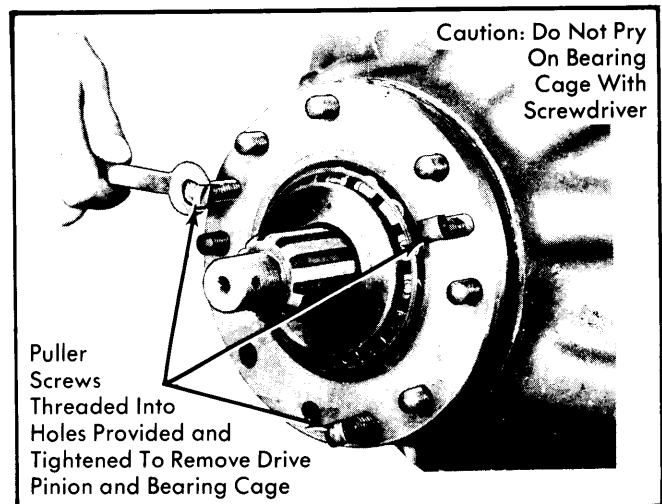

Fig. 1 Drive Pinion Shaft and Bearing Cage Removal
4) Hold yoke with a suitable holding tool (DD-949) and remove nut and washer. Pull off yoke using a suitable puller (C-549). **CAUTION** — Do not drive off yoke as damage may be caused. Remove drive pinion bearing cover and oil seal as an assembly. Remove bearing cage using puller screws screwed into holes provided. See Fig. 1. **CAUTION** — Do not pry bearing cage loose as bearing lock ring groove will be damaged. Attach bearing cage shim pack to bearing cage for reassembly.